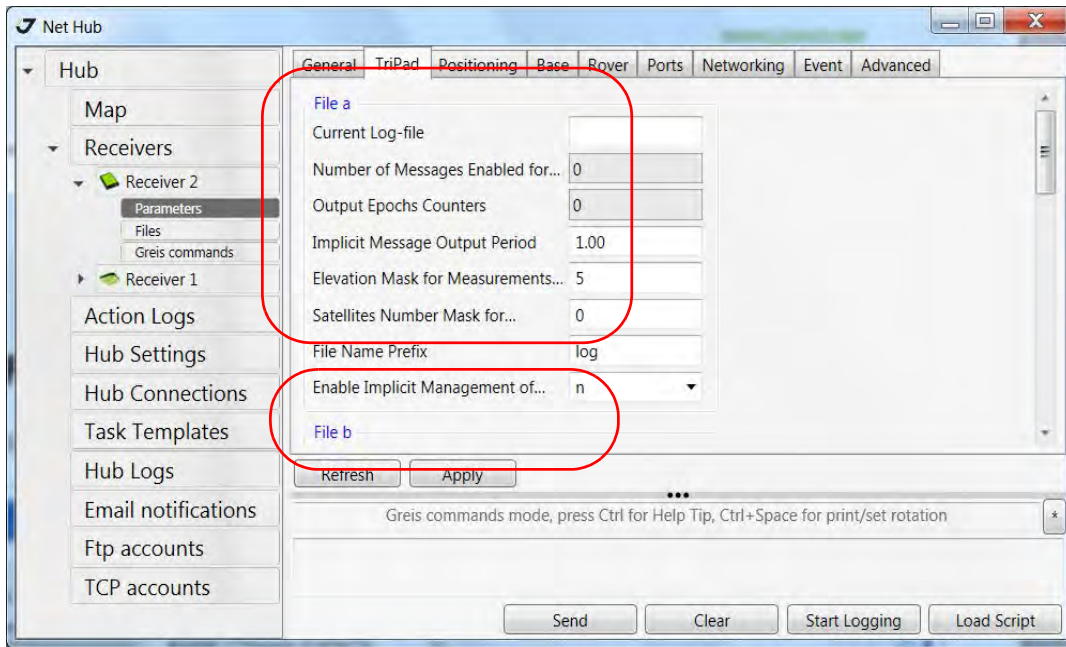

Figure 13. TriPad tab settings
4. Open the *TriPad* tab and set the following parameters (Table 5), click *Apply* (Figure 13 on page 36).